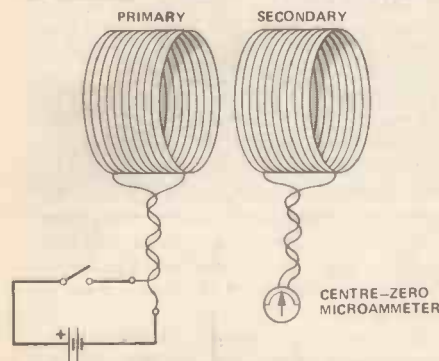

Figure 10. Induction without movement — the transformer effect; changing current in the primary coil causes a voltage to be induced in the secondary coil.
Just as we can produce a magnetic field from the current flowing in a wire, so we can also produce electricity from a moving magnetic field — this was the great contribution that Michael Faraday made to electrical history. A permanent magnet, for example, moved into a coil of wire (a solenoid) will cause a voltage to be generated and we can obtain a similar effect, without any visible movement if we place two coils close together (Figure 10) and switch a current on and off in the circuit connected to one coil, the primary coil. This will cause a voltage to be generated in the second coil, the secondary, but only for as long as the current in the primary coil is changing. A steady (DC) current causes no voltage to be generated. The effect is called electromagnetic induction and the voltage produced in the second coil is an induced voltage. This principle is that of the transformer, which can be used with AC only, because only in AC circuits will the current in the primary coil be changing continually.